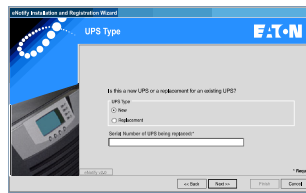

Figure 13. Set UPS Type
- To type in all new data for the wizard, select **Configure card with new values**. When you click Next, the UPS Type screen (Figure 13) opens. Continue with Step 3.
- To use the settings saved on your computer during the last configuration, select **Configure card using last known wizard settings**. The wizard screens will be populated with the last saved settings, and you can change them as needed for the new card. When you click Next, the UPS Type screen (Figure 13) opens. Continue with Step 3.
- On the UPS Type screen (Figure 13), select whether the UPS is a **New** or a **Replacement** UPS. If a replacement, also enter the serial number of the UPS being replaced. Click **Next**.
2. To update a card using the last settings saved on the computer, select **Configure card using last known wizard settings** and click **Next**. The UPS Type screen (Figure 13 on page 10) opens. Continue with Step 3 on page 10. Modify the settings as needed for the new configuration.